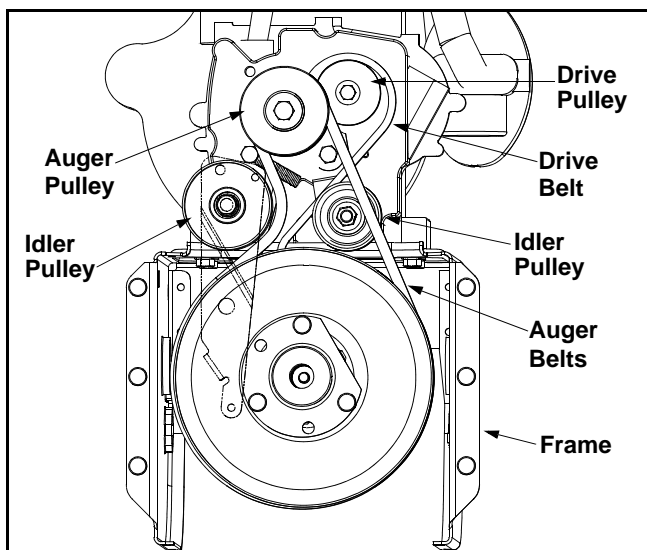

Figure 19
- Roll the front and rear auger belts off the auger drive pulley. See Figure 19.
- Pull the idler pulley up and lift the belt off the wheel drive pulley and friction wheel disc. See Figure 19.